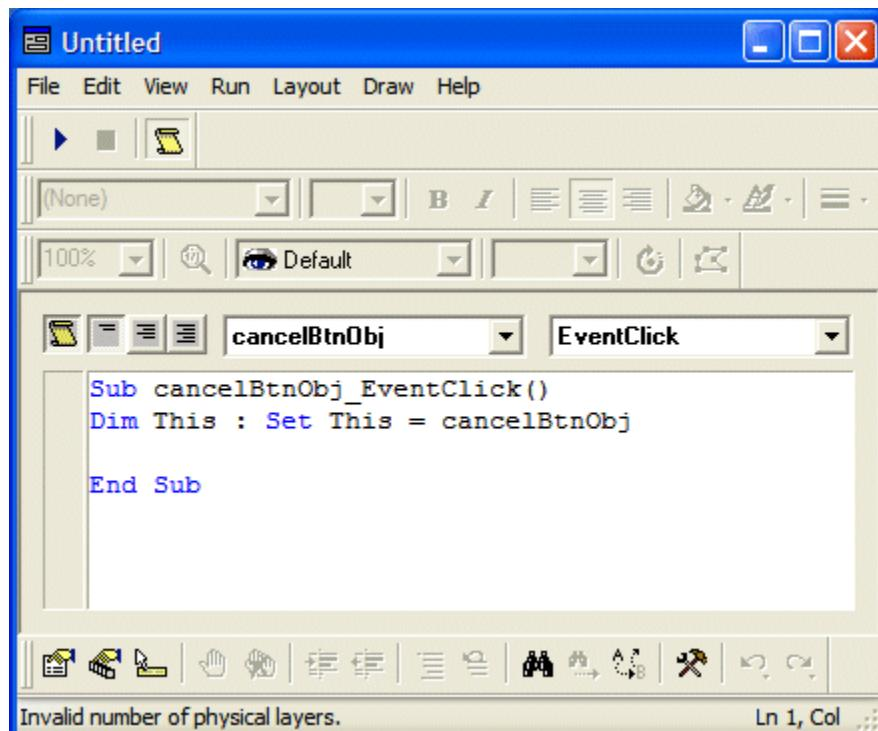

Figure 4-13. The event handler for the Cancel button's click event.
- 1) Double-click on the **Cancel** button in the form editor and observe the resulting dialog as illustrated in Figure 4-13.